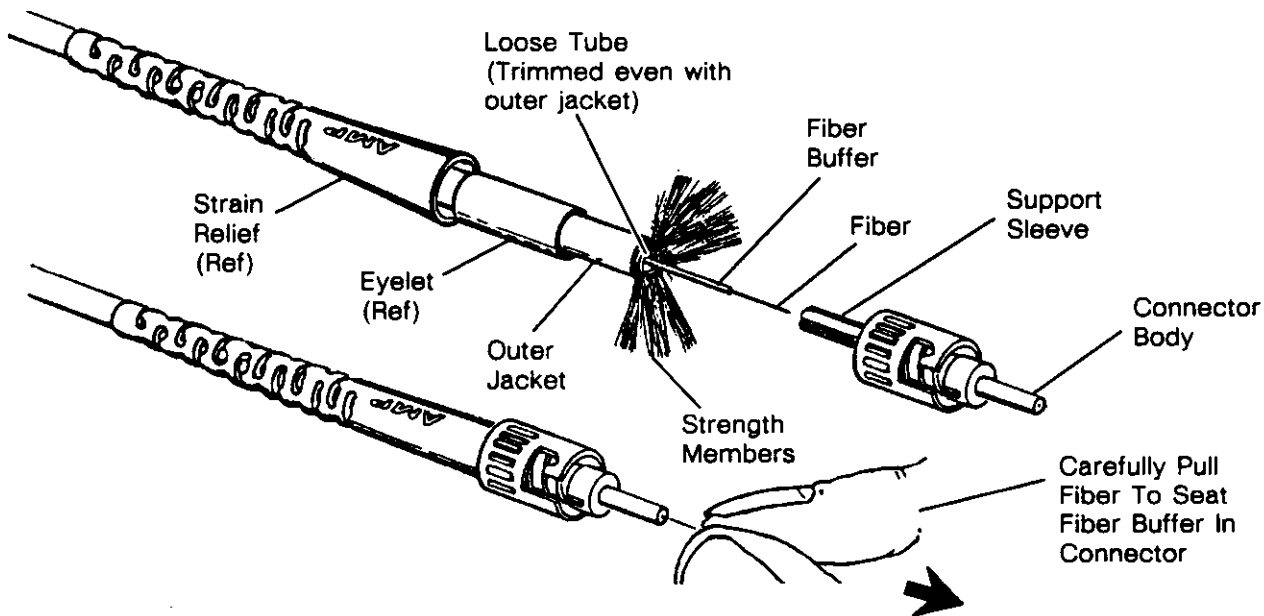

Fig. 11. 3 mm Loose Tube Lead
A. 3 mm Loose Tube Lead with Strength Members (See Figure 11)